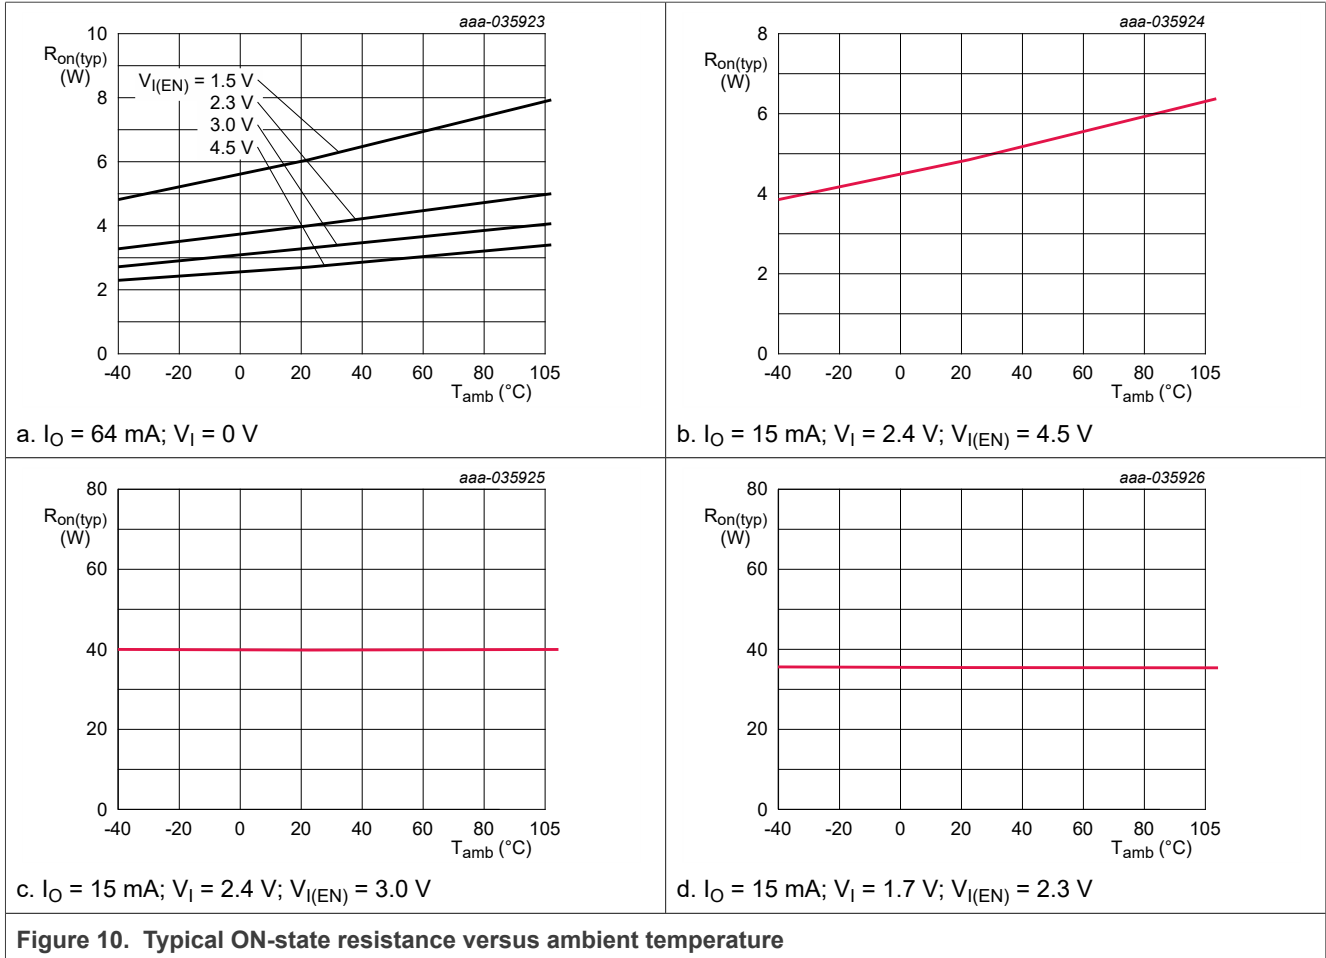

Figure 10. Typical ON-state resistance versus ambient temperature
- [4] See curves in Figure 10 for typical temperature and V_{I(EN)} behavior.